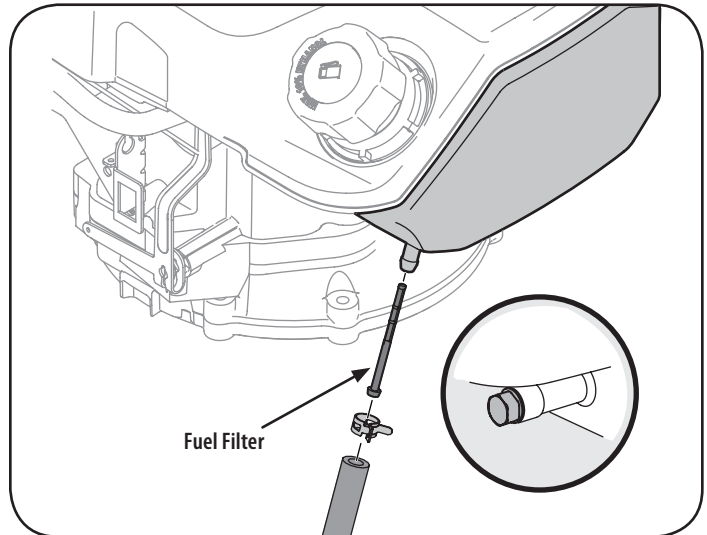

Figure 22
2. Remove hose clamp from fuel line and remove fuel line from tank outlet. See Figure 22.